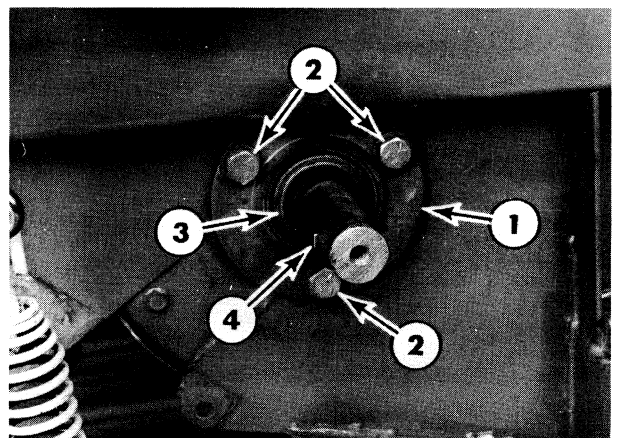
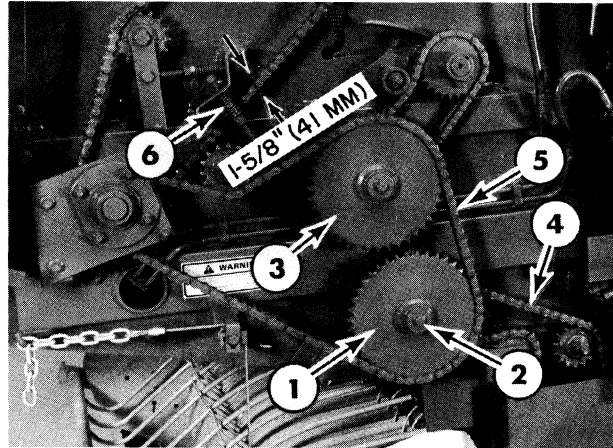

Figure 6-24
Figure 6-25
4. Install sprocket, 1, Figure 6-25, and tighten center bolt, 2. Rotate the roll to make certain the sprocket is seated.
5. Torque the bolts at 2, Figure 6-24, to 37 ft. lbs. (52 N·m).
7. Check the alignment of sprockets, 1 and 3, Figure 6-25. Add or remove shims at 3, Figure 6-24, to align the sprockets within 1/16" (1.5 mm).
8. Install drive chain, 4, Figure 6-25, and adjust it to deflect 1/8" - 1/4" (3 mm - 5 mm).
9. Install drive chain, 5, Figure 6-25, and adjust spring, 6, to length of 1-5/8" (41 mm).